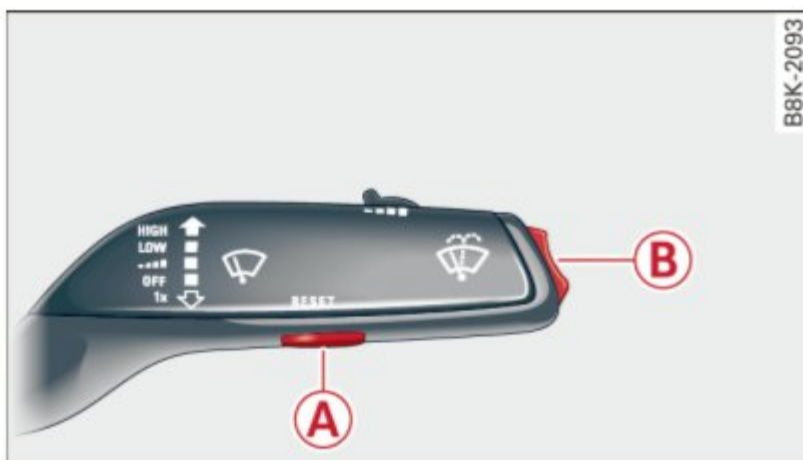

Fig. 11 Windshield wiper lever: controls for the trip computer
You can switch between the trip computer 1 and 2 and the efficiency program* by pressing the **RESET** button **(A)** ⇨ page 26, fig. 11.
- ▶ To display the trip computer memory levels, press the **RESET** button **A** ⇒ *fig. 11* repeatedly until the desired memory level is shown in the display.
- ▶ Press the **RESET** button (A) ⇒ *page 26, fig. 11* repeatedly until the efficiency program appears in the display.
- ▶ In the efficiency program, press the function selection switch ⇒ page 26, fig. 11 (B) repeatedly until the enhanced shift indicator appears in the display.
- ▶ In the efficiency program, press the function selection switch ⇒ page 26, fig. 11 (B) repeatedly until the other equipment appears in the display.
- ▶ To turn a fuel economy message off immediately after it appears, press the **RESET** button ⇒ page 26, fig. 11 **A**, or
- ▶ Press the function selection switch ⇒ page 26, fig. 11 **B**.